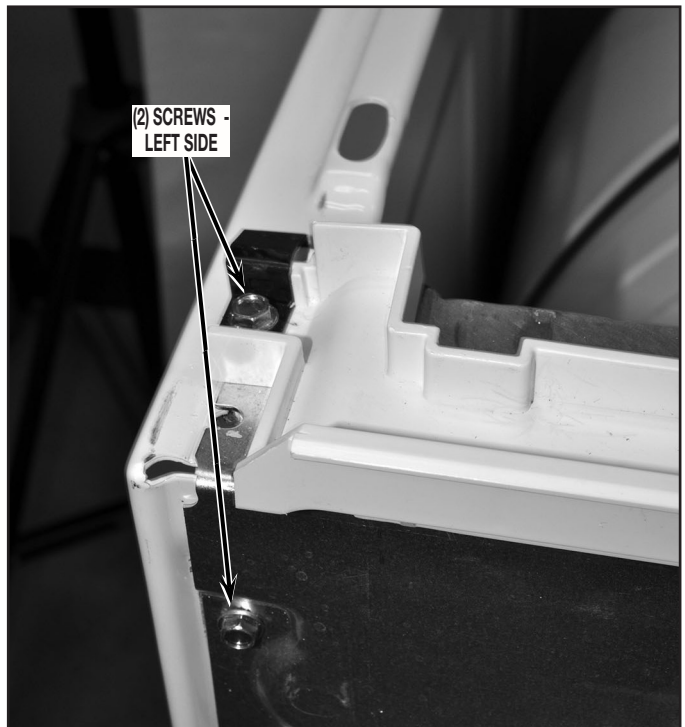

FIGURE 10A
10. Next remove console mounting bracket by removing two (2) screws securing bracket to cabinet left side panels, two (2) screws from right side panel and one (1) screw from central control bracket. Slightly lift assembly and remove from dryer. See *Figures 10A and 10B*.